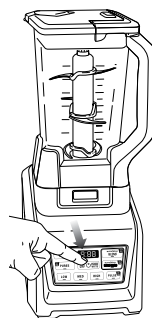

Fig. 7
- 12 Press the power button to turn on the unit. Select the speed or Auto-iQ program that best suits your needs. The Auto-iQ program will stop the appliance automatically at the end of the program. **(Fig. 7)**